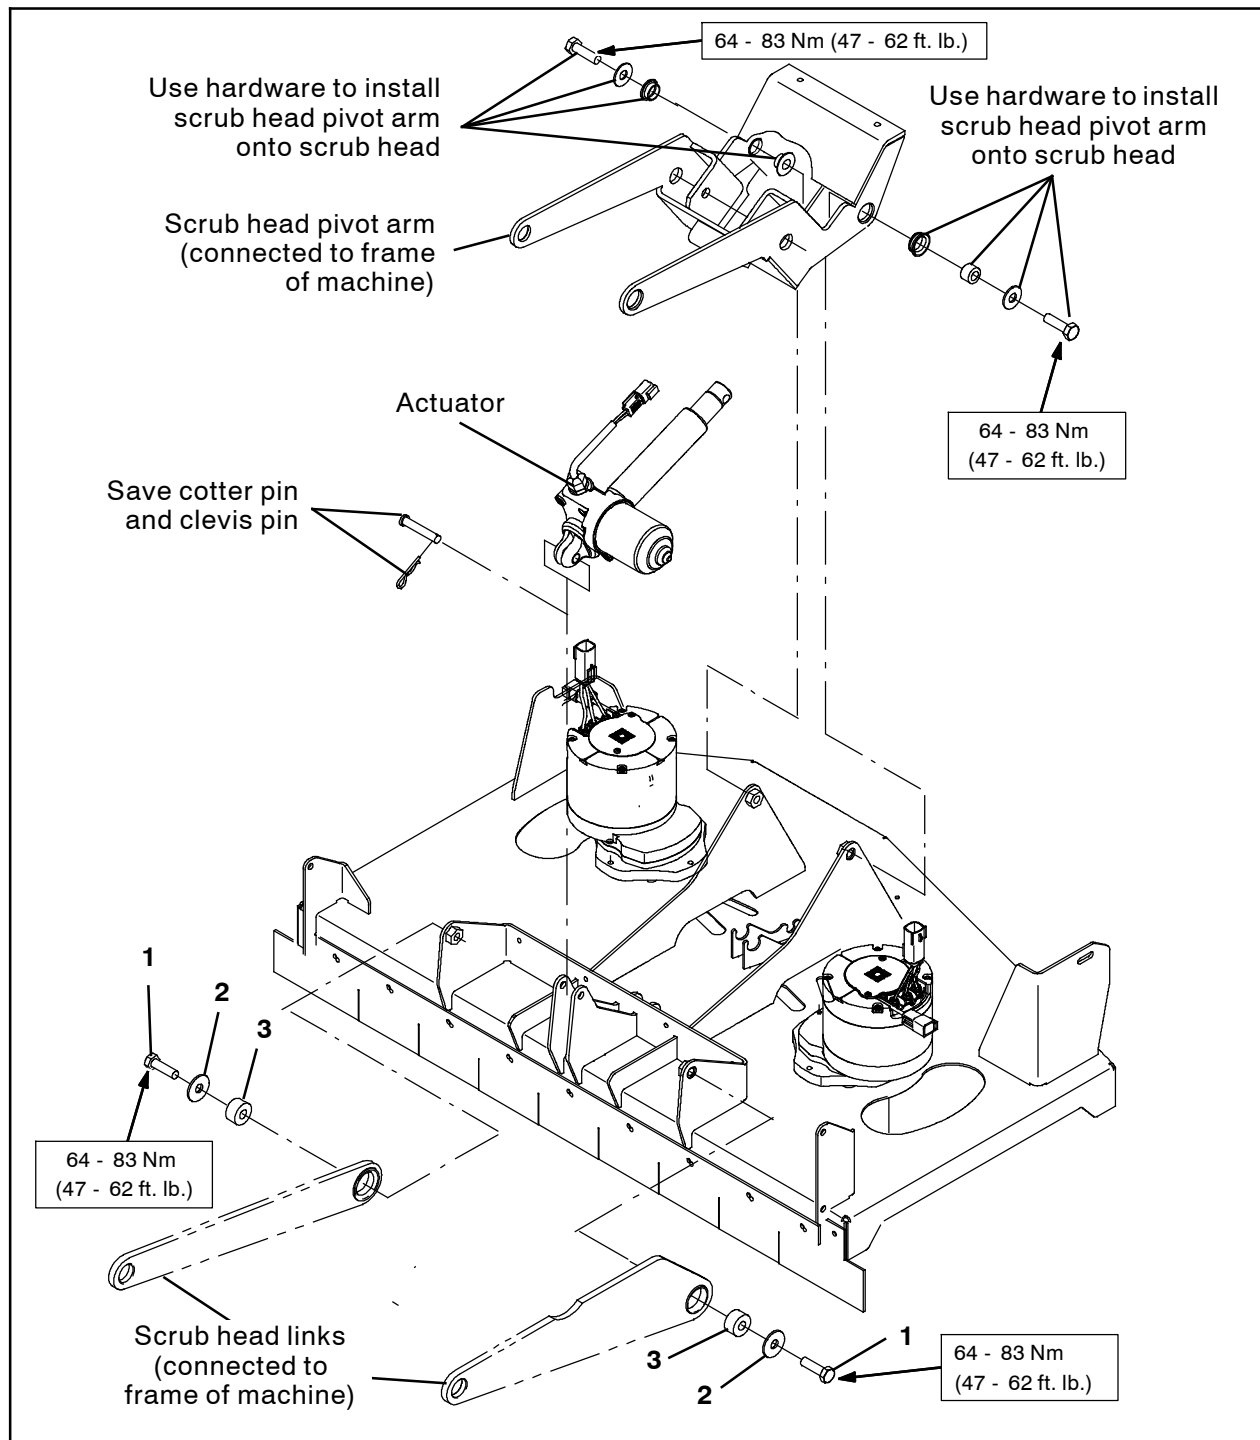

FIG. 4
14. Use the saved clevis pin and cotter pin to connect the scrub head actuator to the scrub head. (Fig. 4)
15. Use one M12 hex screw (1), one flat washer (2), and one lift pivot (3) to connect each scrub head link to the scrub head. Torque both M12 hex screws to 64 - 83 Nm (47 - 62 ft. lb.). (Fig. 4)
16. Use the saved hardware to connect the scrub head pivot arm to the scrub head. Torque both M12 hex screws to 64 - 83 Nm (47 - 62 ft. lb.). (Fig. 4)